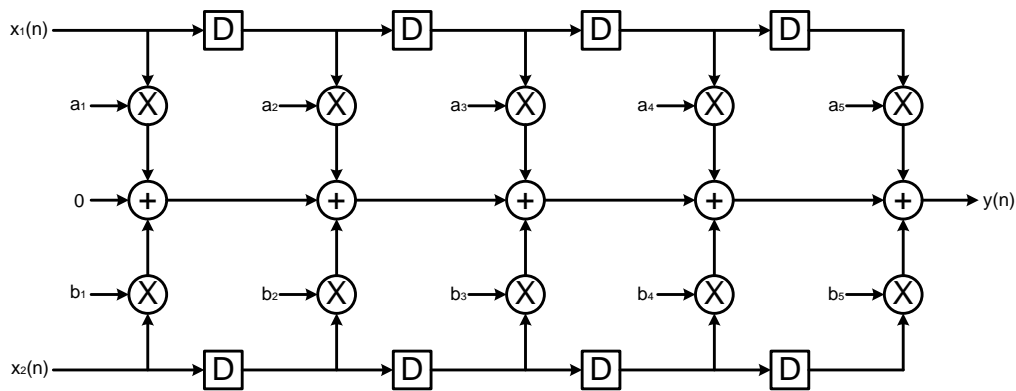

Fig. 3.22 Data-flow graph for Problem 1
1. Consider the nonrecursive signal processing structure shown in Fig.3.22. Find an equivalent data-broadcast implementation of this algorithm to improve the speed of the system. Do not use any additional latches. Calculate the throughput or sample speed of the broadcast architecture. (Hint Transpose operation is not applicable to the 2-input 1-output system in Fig.3.22.)